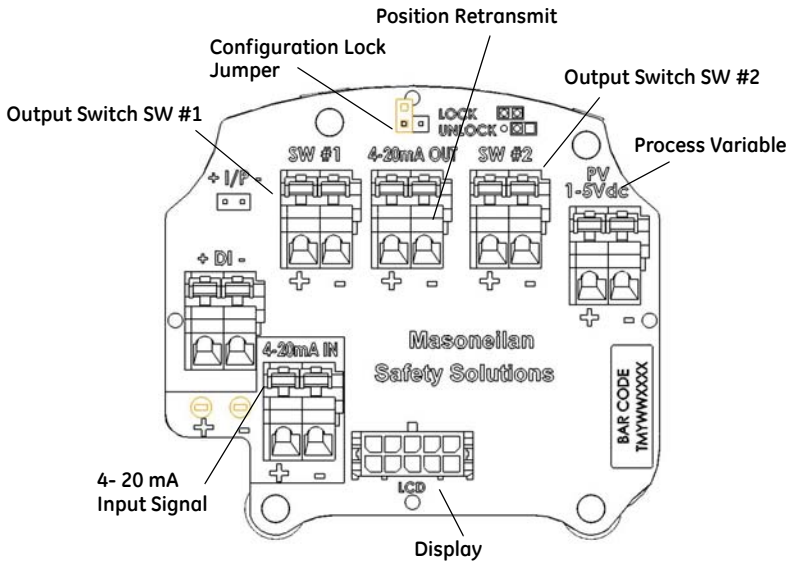

Figure 15 Connections to ASD Electronics Module (via Terminal Board)
2. Connect the +/- terminals from the 4-20 mA Out to the position retransmit input signal: + to + and - to -. See Figure 15 on page 49.
1. Loosen the four (4) cover screws and remove the cover of the SVI II ESD.
2. Connect the \pm terminals of the current source to the 4 - 20mA IN connector (on the terminal board). The current source + must connect to the terminal board connector +, and the same for -. See Figure 15 on page 49.
2. Locate the correct terminal block on the terminal board (see Figure 15 on page 49).